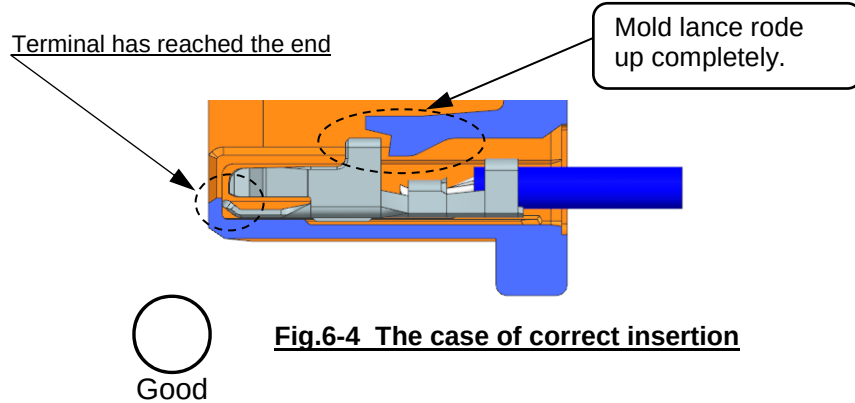

Fig.6-4 The case of correct insertion
- ⑤ After inserting all terminals, please confirm the position of terminal lance part by looking through window of receptacle mold lance. If they are inserted correctly, terminal lance is at the position where terminal lance rode up mold lance properly and you can confirm clearance by shaking them axially lightly. **(Fig.6-4,6-5)**